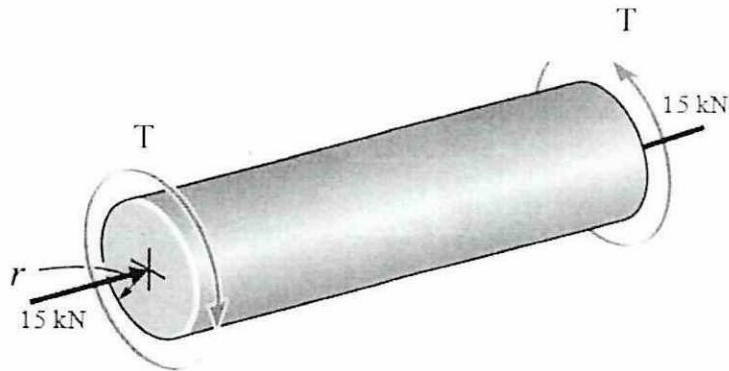

Figure Q5
- (c) A solid shaft shown in **Figure Q5** has a radius, r of 15 mm and is made of steel having a yield stress of 360 MPa. Determine the maximum torsion(T), so that the shaft does not fail according to following theories: